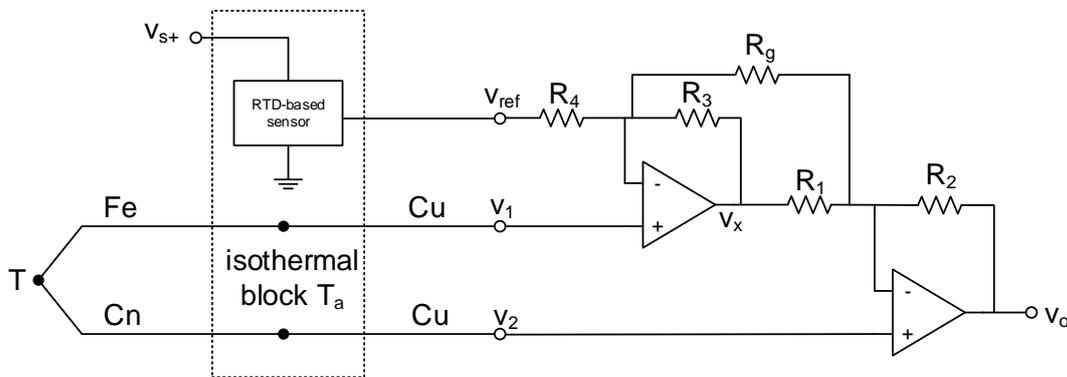
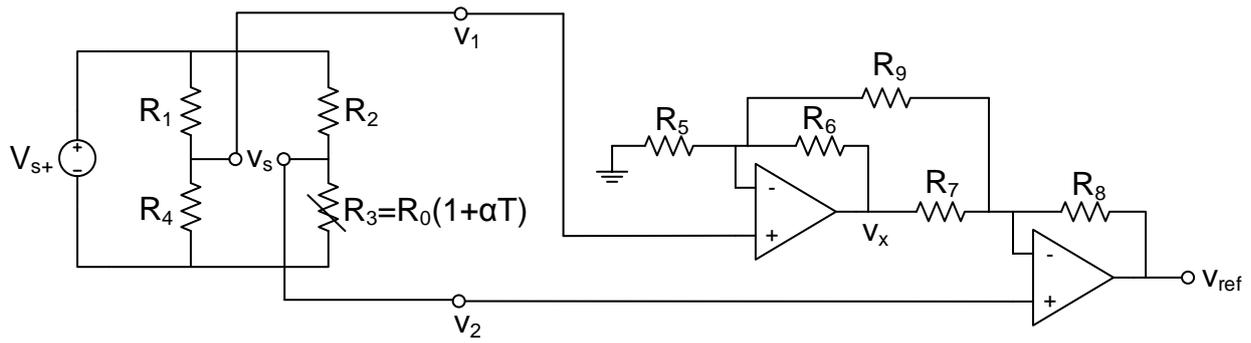

Figure 6: Compensation with a RTD-based sensor and instrumentation amplifier.
Figure 7: Implementation of “RTD-based sensor” block of Figure 6.
The thermocouple in Figure 6 contains a reference junction compensation based on a RTD temperature sensor. The output voltage of this sensor (v_{ref}) is given by the following transfer function: $v_{ref} = 16mV/^{\circ}C \cdot T_a$ with T_a the environmental temperature at the reference junction. The output of the reference temperature sensor is connected to the reference input of the instrumentation amplifier. It holds for this instrumentation amplifier:
- (5p) (a) There are three important laws that you can use when analysing thermocouples, namely the law of the homogeneous circuits, the law of intermediate metals, and the law of intermediate temperatures. Show using these laws that the voltage across the thermocouple shown in Figure 6 is equal to:
- (5p) (c) The circuit shown in Figure 7 is used to generate the reference voltage v_{ref} for the thermocouple sensor shown in Figure 6. In other words, Figure 7 shows the internals of the block “RTD-based sensor” in Figure 6. Assume that the supply voltage v_{s+} is equal to 4 V. Assume further that resistor R_3 is a temperature dependent resistor (RTD) of type PT100. Its relation between temperature and resistance (transfer function) can be approximated with the following linear equation: $R_3(T) = R_0(1 + \alpha T)$, with R_0 equal to 100Ω and $\alpha = 0.004/^\circ C$. Assume also that $R_4 = R_5 = R_6 = R_7 = R_8 = R_9 = R_0$ and $R_1 = R_2 = k \cdot R_0$. What resistance should the resistor R_2 have to ensure that the “RTD-based sensor” has a sensitivity of $16mV/^\circ C$?
- (5p) (e) Would it be possible to use a sensor based on the pyro-electric effect in the circuit shown in Figure 7 instead of an RTD for an application where the environmental temperature is constant? (Explain your answer)